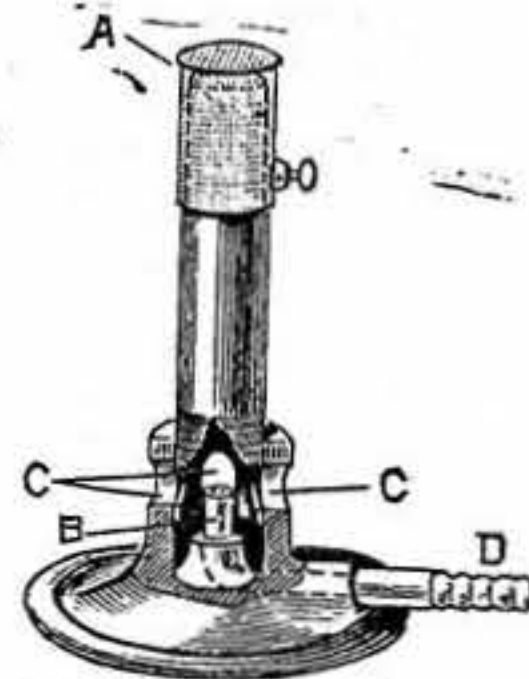

Fig. 2.—Bunsen Burner, Perspective View, partly in Section—A, Removable Perforated Metal Cap; B, Brass Burner; C, Air Inlet; D, Pipe for Indiarubber Tube.
**Bunsen Gas Burner.**—T. M. (Liverpool).—The great mistake in your query, and what makes it impossible for me to answer, is that you have not stated how much glass you want to melt, and whether you use a furnace or not. I cannot by any means tell how to arrange one, and what size to make it, until the above is answered. The amount of heat given out by a burner is proportionate to the size of the flame when burning properly. There are only so many units of heat in the flame of a burner of a given size; but this flame can be concentrated, by means of a blowpipe or the blast in a furnace, so that it will melt objects which, without this means, it would not have much effect on. Do you want to use it in a specially constructed furnace, or otherwise? as I am afraid you will not be able to melt glass in any quantity without the aid of a furnace. A very small size of burner, or even a candle or lamp flame, in combination with a blowpipe, would be ample, I should say, if the amount of glass was very small. If you want to use it in a furnace, a great deal lies in the design of the furnace itself. The best thing I can do is, therefore, to give a sketch of a Bunsen burner furnace for metals, with crucible in position, and the position and size of the top of the burner. From this and Fig. 2, which shows an ordinary burner, you should be able to design one to meet your requirements, making the diameter of the burner tube proportionate to the crucible, as in Fig. 1. You must first get a crucible that will hold the amount of glass you want to melt, and proportion the top of burner to it. If the flame alone from the burner does not melt the glass in crucible, perhaps
by concentrating the flame on to it by means of a blast you might be successful. This could be arranged, as shown by dotted lines, Fig. 1, by cutting slits at intervals (the longer the better, if the furnace will stand it) round the cupola: these slits to be from ¼ in. deep and upwards, according to the size of the furnace. A narrow chamber, shown in dotted lines, Fig. 1, might be formed, completely encircling the cupola and enclosing the slits. By having this chamber rather deep, the blast is heated to a certain extent before entering the furnace proper. The blast, if the furnace is no greater than 6 in. by 6 in., might be produced by a pair of ordinary house bellows; if larger, by bellows worked by the foot or a small fan. At intervals round the outer casing, and opposite the slits, it is as well to have small doors, to clean out the slits should they get filled up by dirt. Perhaps it would be as well to have the slits slightly inclined upwards, by which means the flame will be blown both against the sides of the crucible and upwards, thus creating a draught as well. Fig. 2 shows a perspective sketch of a burner, partly in section, to show more clearly the method of distributing the gas and the position of the air-holes, of which there are four, placed at right angles, passing through both stand and tube, which is threaded to screw into stand; and by this means the admission of air can be regulated to a nicety by turning the tube round. Suppose perforated cap removed, as it is only a useful accessory: then you turn on the gas, which passes up the tube, taking with it air for its own consumption. If there is too little gas passing up, it will not burn at the top of the tube when a light is applied, but descend and burn below. This will show you that there is too little gas. The quantity being sufficient, the flame will remain burning at the top. Should there be too little air, the flame becomes golden; when burning correctly, it should be blue. When the finely perforated cap is used, a very inflammable mixture of gas and air can be thus burned, as the gas, whatever its pressure quantity or quality, cannot light below. By this means a burner can be made from 1 to 2 in. in diameter, and capable of burning 40 cubic feet of gas per hour. I have only mentioned this as a useful accessory. The proportion of a small tube in a burner should be from 4 in. to 5 in. long by ½ in. to ¾ in. in diameter.—P. B. H.